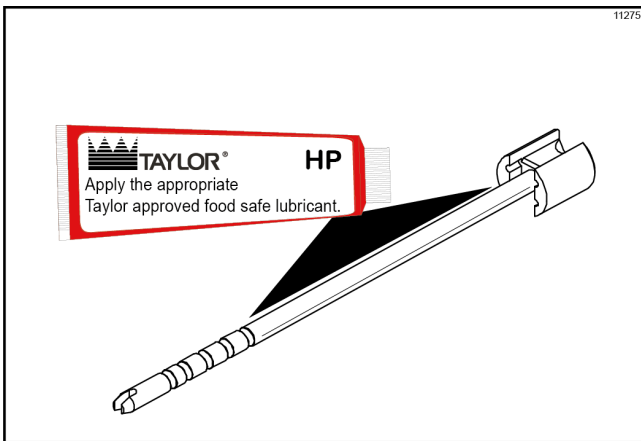

Figure-123
14. Lubricate the shaft of the spinner blade up to the groove. (See Figure-123.)